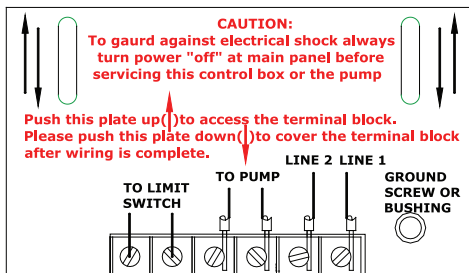

Figure 4. Protective Plate
- 4.10 Push the protective plate (see figure 4) upward to access the terminal block.
- 4.14 Push the protective plate (figure 4) down to completely cover the terminal block.